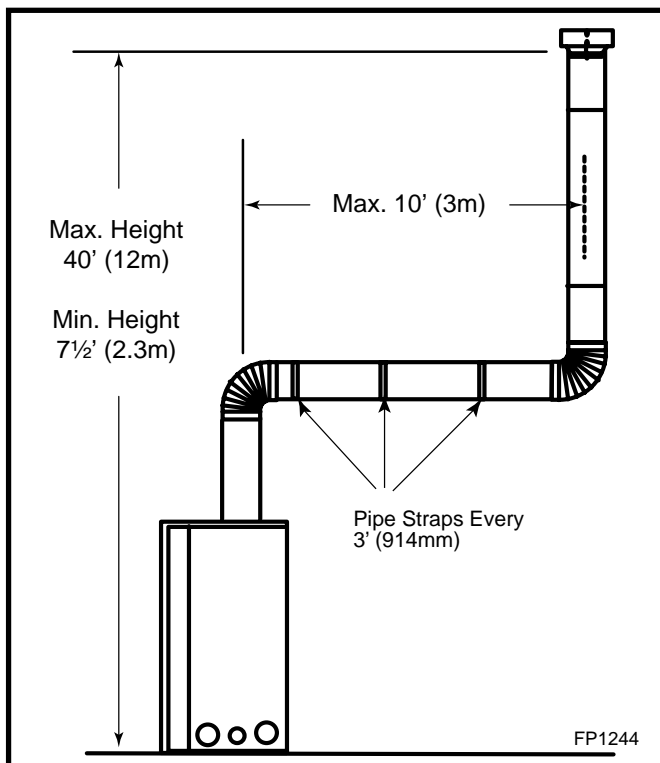

Fig. 25 Support straps for horizontal runs.
- Vertical installations up to 40' (12m) in height. Up to a 10' (3m) horizontal vent run can be installed within the vent system using a maximum of two 90° elbows. (Fig. 25)